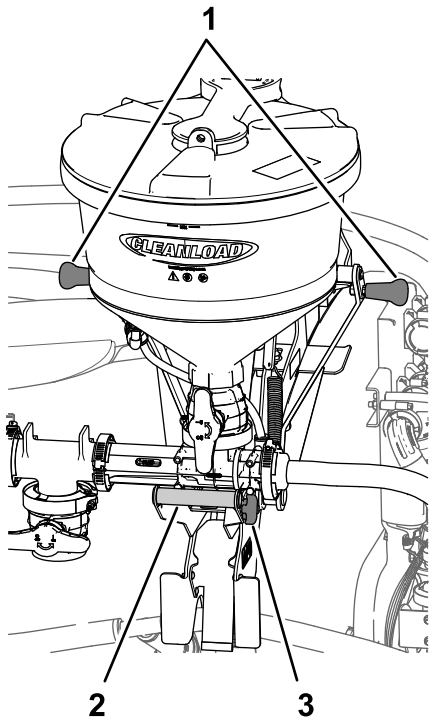
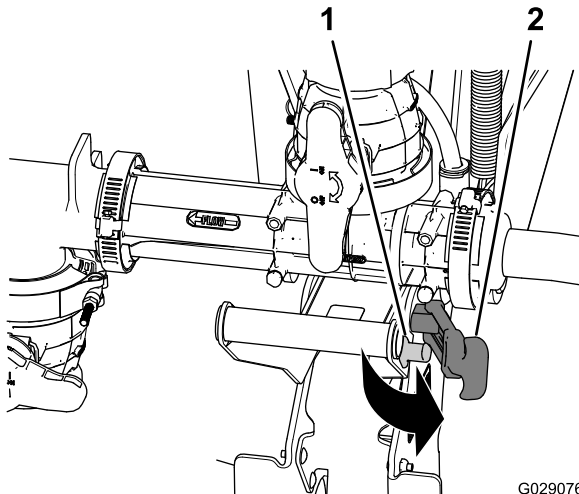
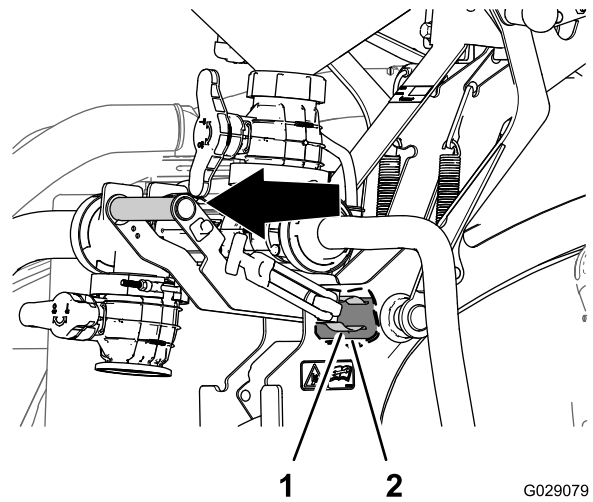
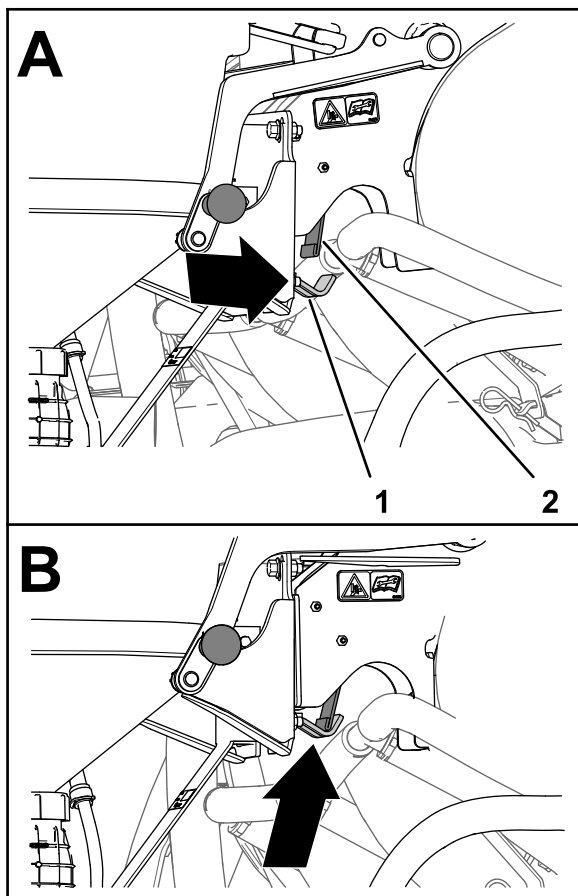

Figure 35
Figure 36
Figure 37
Figure 40
1. Grasp the educator handle and pull the latch handle off the latch post (Figure 35 and Figure 36).
handle out until the spring clip releases from the pivot tube (Figure 35 and Figure 37).
- When the latch of the back plate is under the spring plate (A of Figure 40), rotate the eductor handle inward so that the hook portion of the latch is aligned behind the spring plate (B of Figure 40).
- Grasp a handle at the top of the cradle in addition to the educator handle and pull the educator handle outward until the hook portion of the latch is aligned outward of the spring plate (Figure 37 and Figure 40).
- Push in the educator handle so that the hook raises to the latch rod and the spring clip fully seats around the pivot tube (Figure 37).
- Pull the latch handle onto the latch post (Figure 36).